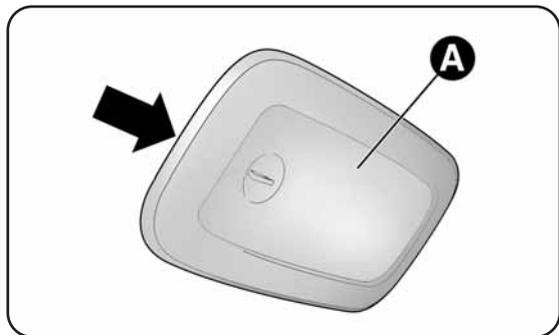

fig. 28
- work at the point shown by the arrow and remove roof light A-fig. 28;